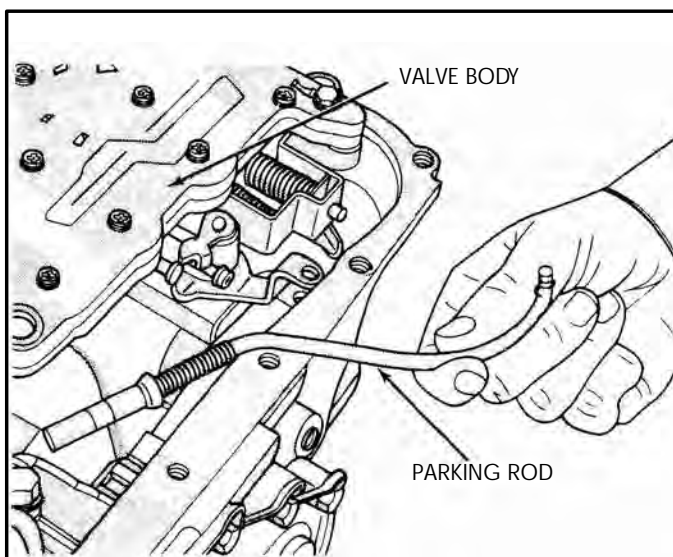

Figure 33
11. Remove the parking rod from the inside detent lever and transaxle, as shown in Figure 33.